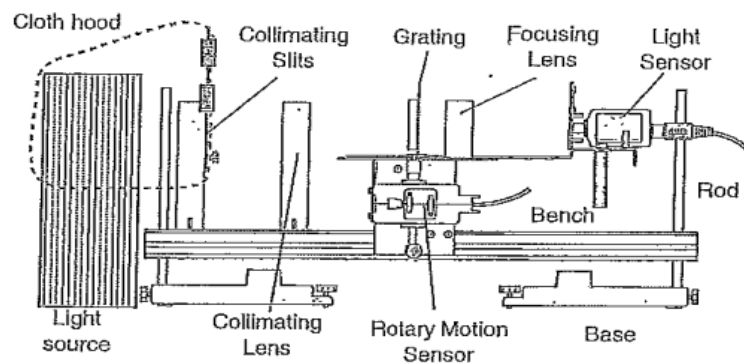

Figure 1: Equipment set-up
1. Position the spectrophotometer near to the mercury vapor light source, as indicated in Figure 1. If necessary, use the Rod Stand Mounting Clamps, two rods and two bases to raise the Spectrophotometer to the same height as the light source aperture.